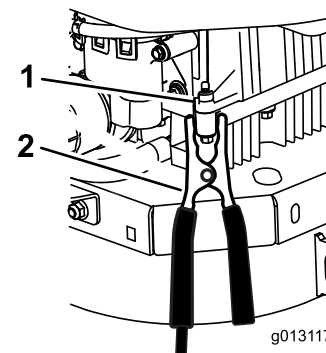

Figure 59
6. **Make the final connection on the engine block of the stalled vehicle (not to the negative battery post) away from the battery and stand back (Figure 59).**